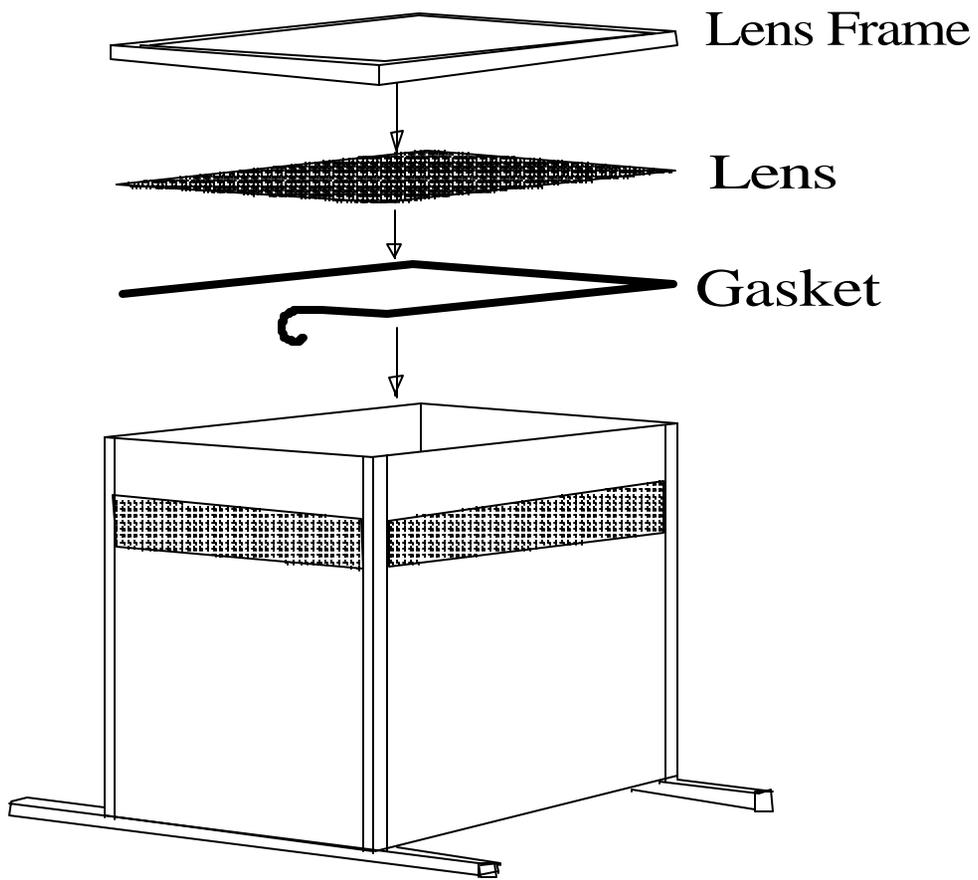

Fig. 5
- C.) After gasketing the lens assembly, lift carefully and apply on SkyLite. Making sure it is "SEATED" and flush. Apply a slight pressure downward and attach with supplied screws. Make sure screws "GRAB" the interior metal and pull the box sides tightly into the aluminum retainer frame. (Fig. 5 and 6.)